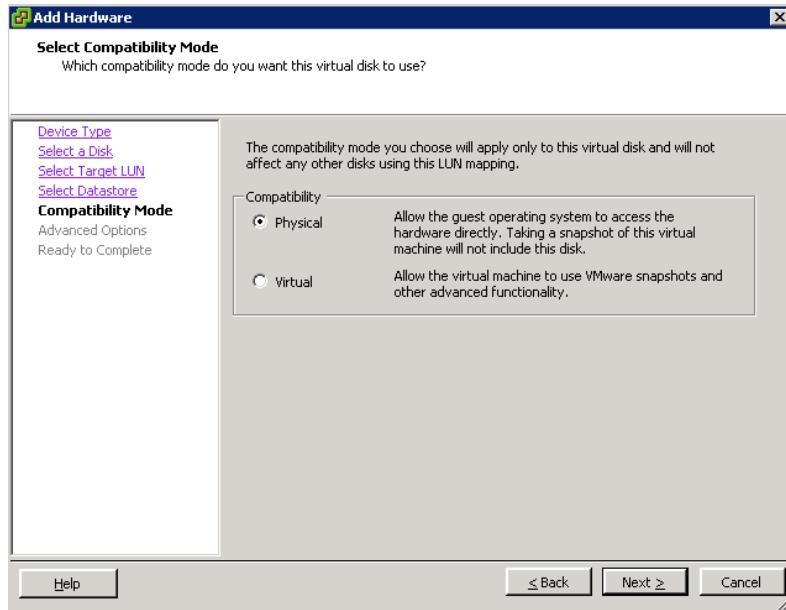

Figure 5-26. Add Hardware—Compatibility Mode
11. Select a compatibility mode. In this example, accept the default, **Physical**, and then click **Next** (Figure 5-26).